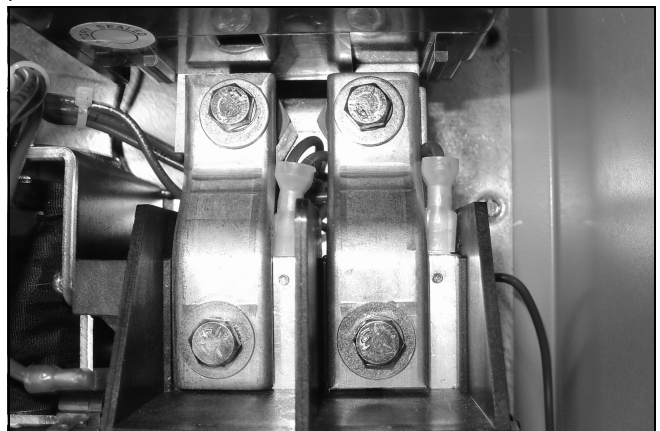

Figure 55. Stab Connections at the Service Entrance Breaker.
Step 3: Remove the two (2) bolts, lock washers, and flat washers securing the service entrance breaker's to the contactor using a 7/16 in. wrench, nut driver, or socket and ratchet (see Figure 55).